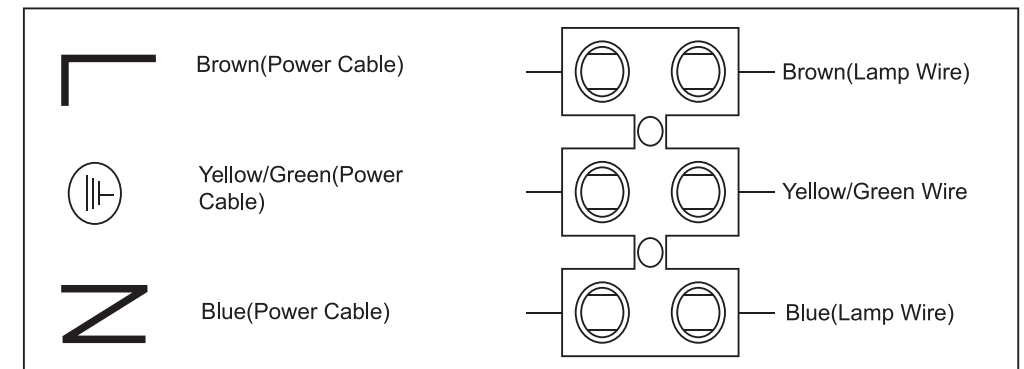

Fig.3
3.CONNECT THE MAINS WIRES.(Fig.3)